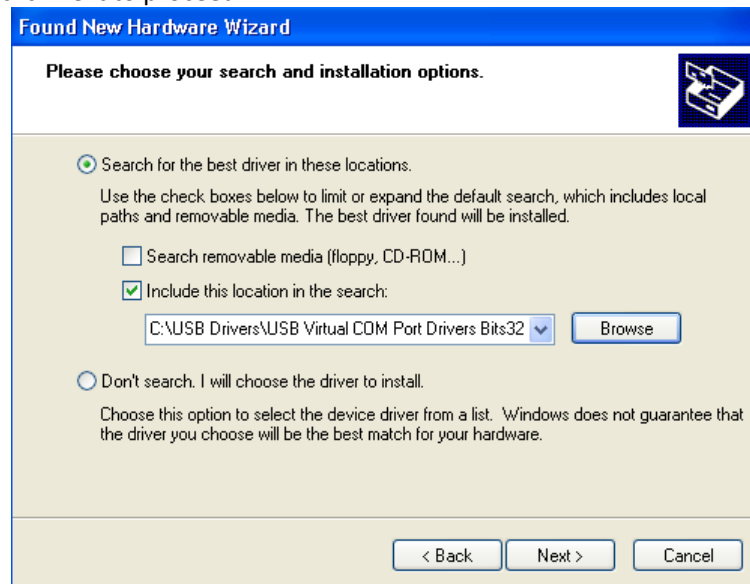

Fig. 2-14
- ◆ Select "Install from a list or specific location (Advanced)" as shown in Fig.2-14 below and then click "Next".